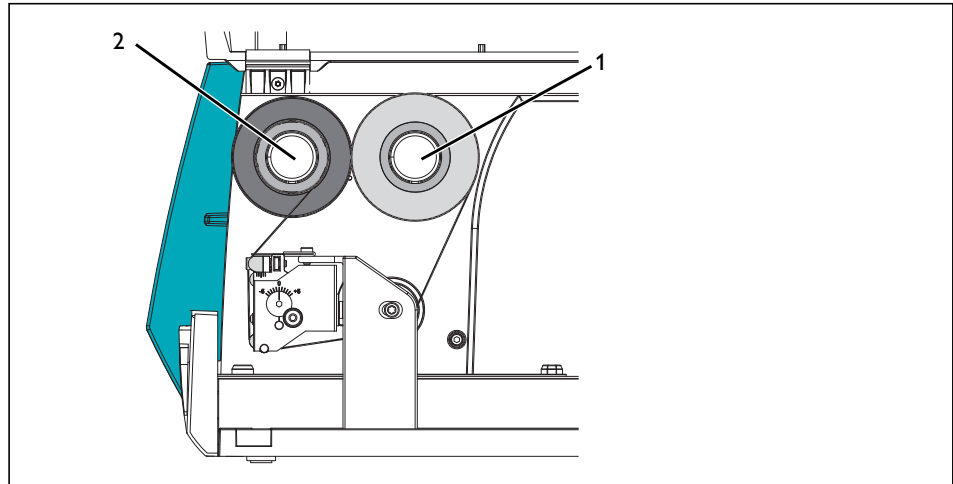

Figure 2-6 Feed path of the ink ribbon
- Push the ink ribbon roll onto the supply hub (1) so that the color coating of the film faces downwards during unwinding.
- The Phoenix Contact ink ribbon rolls for this printer have the color coating on the outside of the winding. Observe the unwinding direction shown in Figure 2-6. **If the color coating is positioned incorrectly, the film will stick to the printhead.**
- Push the empty core of an ink ribbon roll onto the take-up hub (2).
- Guide the ink ribbon through the printing unit as shown in Figure 2-6.